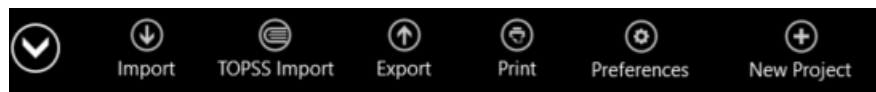

Figure 20: AppBar Menu
2. Select “Export” in the bottom AppBar menu as shown in Figure 20.